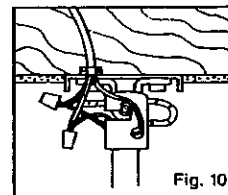

Fig. 10
- A.** Connect black electrical supply lead to the black motor lead and the black with white stripe motor lead (See note). Connect the white electrical supply lead to the white motor lead. Connect ground wire to green screw on side of hanger bracket. See Figure 10.